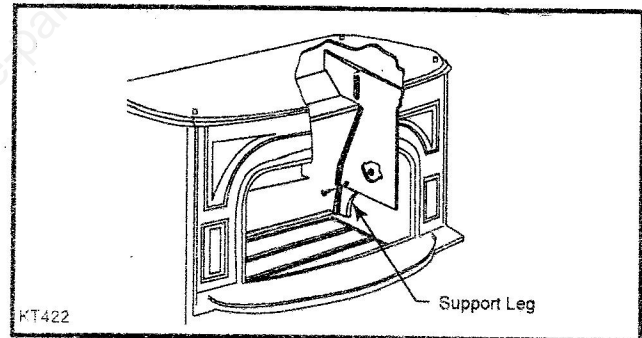

Fig. 4 Position support leg under rear of baffle.
6. Position the support leg under the rear of the baffle, against the lower fireback. Secure it to the baffle with a 1/4 x 20 hex head screw and hex nut. (Fig. 4)